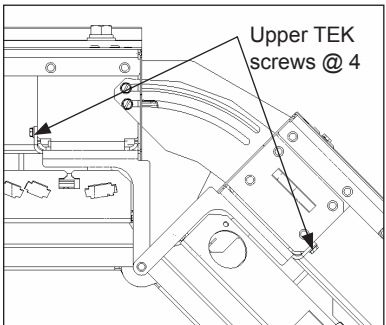
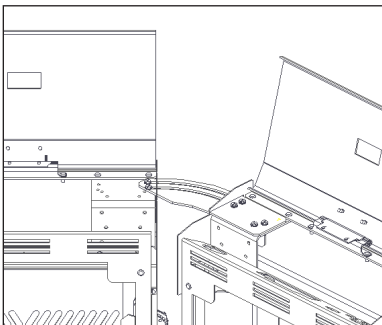

Figure 23: Removing Top Hinge
Figure 24: Top Hinge Removed
5. Remove the TEK screws securing the top hinge into place and remove the top hinge. This needs to be removed to allow the beverage shrouds to close completely and the module pans to slide out. Refer to **Figure 23** and **Figure 24**.